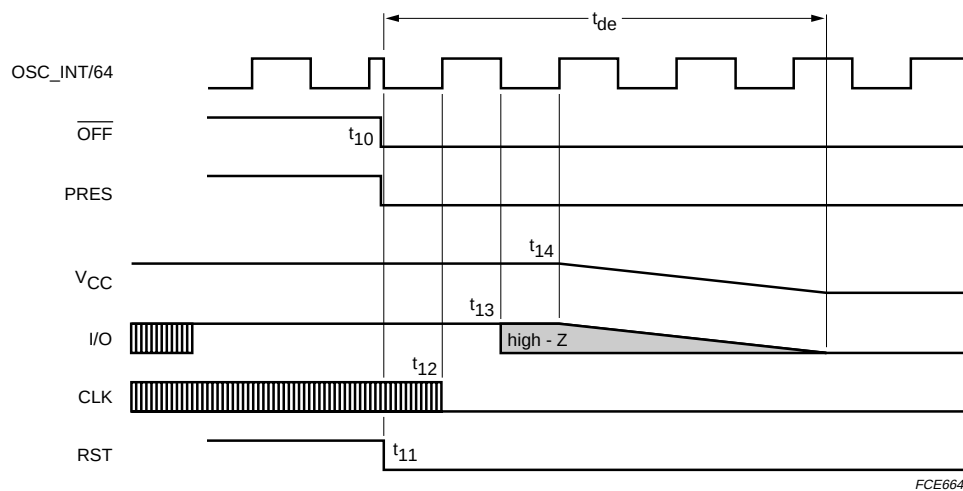

Fig. 8 Emergency deactivation sequence.
2. $\overline{CMDVCC}$ LOW: (within a card session) then, $\overline{OFF}$ falls LOW if the card is extracted, or if a short-circuit has occurred on V_{CC} , or if the temperature on the IC has become too high. As soon as the fault is detected, an emergency deactivation is automatically performed (see Fig.8).